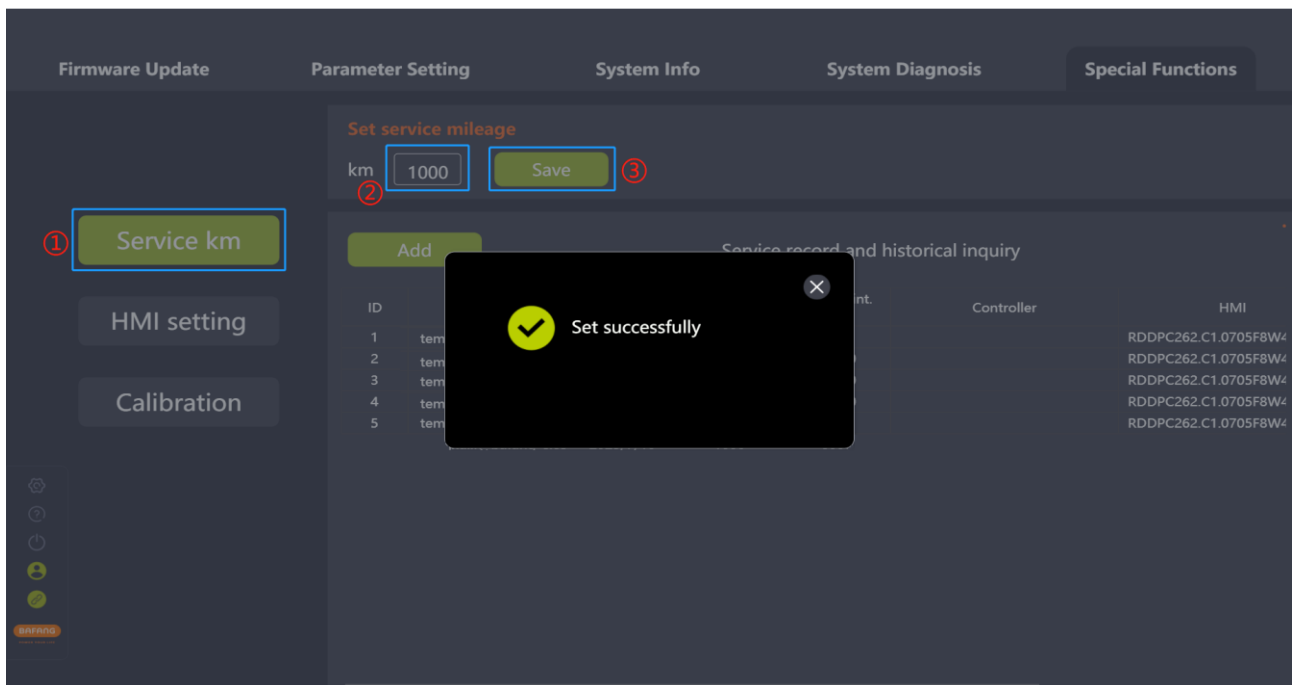

Fig. 8-1 Set service mileage
- (1) Connect the BESST Tool to the HMI and select the "Set Service km" icon;
- (2) Make sure whether the HMI supports this function. If it supports, enter the service mileage in the input box.
- (3) Click the "Save" icon (Fig.8-1).